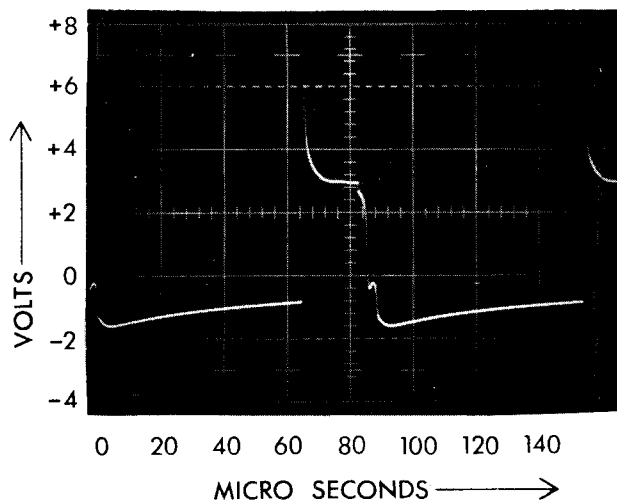

FIGURE 7
- a. Should observe 11 KHZ rectangular waveform similar to that observed on the primary side. See Figure 7.